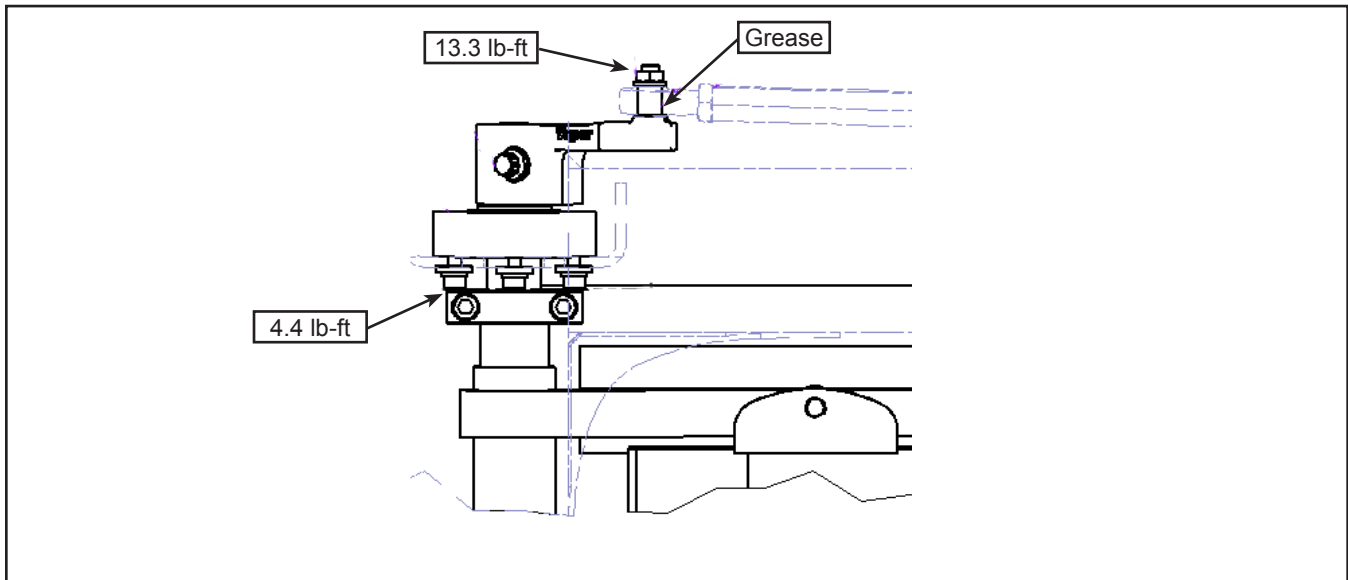

Figure 9 - Torque Door Shaft
- 1.21. Install the door shaft and apply a torque of 4.4 lb-ft to the three bolts. Use thread locker 9985283 or equivalent. See Figure 9.
- 1.22. Install the door mechanism rod to the top of the shaft, torque to 13.3 lb-ft and apply thread locker 9985283 or equivalent. We recommend applying grease N24412 or equivalent to the pivot, if needed. See Figure 9.